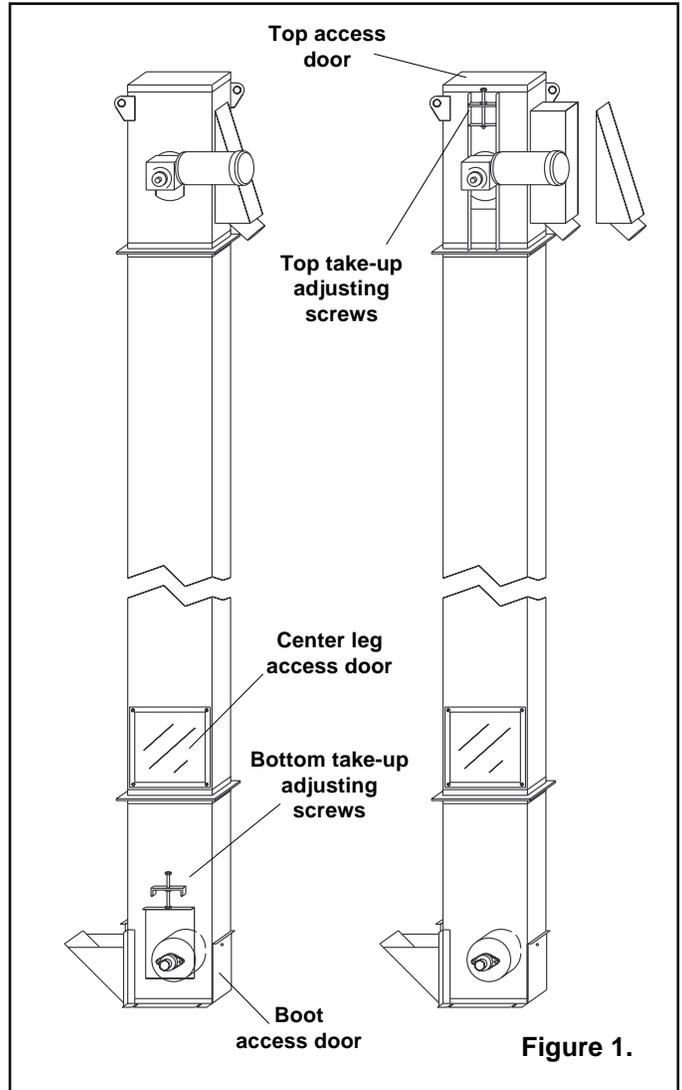

Figure 1.
1.3.1 Most Clemco elevators have top take-up adjusting screws. For a short period of time in the early 1980s, elevators had bottom take-up adjusting screws. Although these instructions refer to the top take-up adjustment, the process is the same for both types. The difference is: raising the take-up on top adjusting elevators tightens the belt, lowering the take-up on bottom adjusting elevators tightens the belt. Ref. Figure 1.